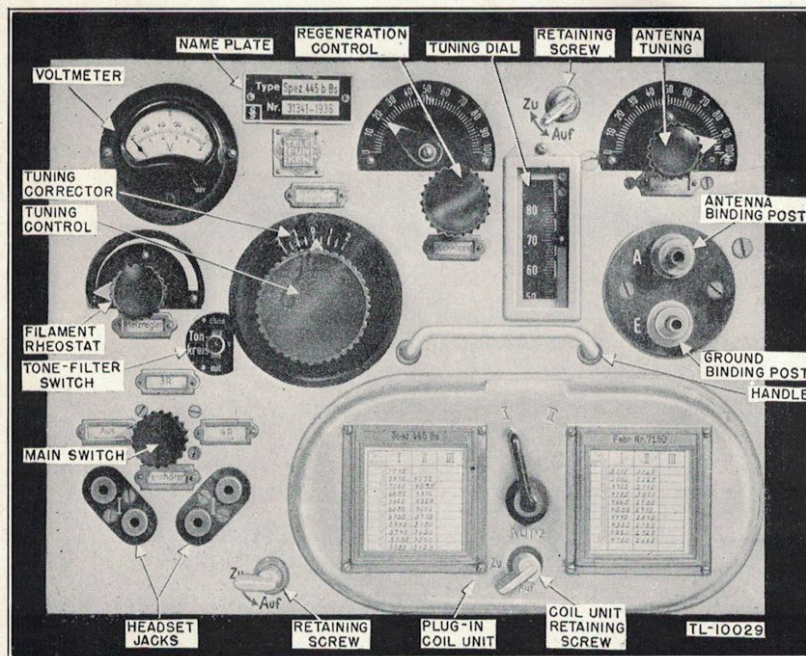
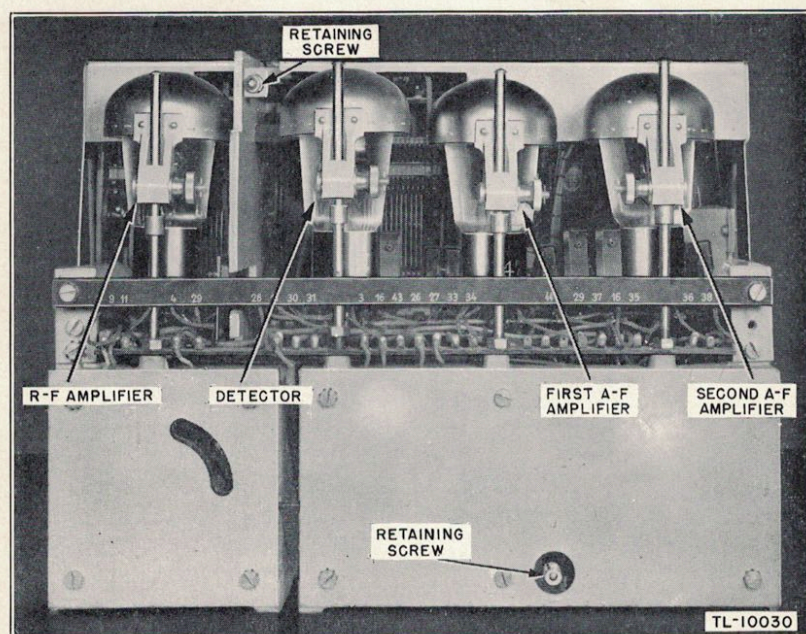

Figure 3. German radio receiver, Spez. 445 b Bs, front view.
Figure 6. German radio receiver, Spez. 445 b Bs, removed from case, rear view.
3. CONTROLS. The controls on the front panel (fig. 3) are listed below with a brief statement of their function:
- (1) Remove the set from the apparatus case by first loosening the two retaining screws labeled **Zu** (tighten) and **Auf** (loosen).
- (2) Check the tubes, making sure that they are firmly seated in their sockets and that the hold-down covers are securely in place.
- (3) Replace the set in the apparatus case and tighten the retaining screws.
- (4) Install the batteries as described in paragraph 4.
- (5) Connect antenna to binding post marked **A** (antenna).
- (6) Connect ground to binding post marked **E** (ground). If used in a vehicle this binding post should be connected to the vehicle chassis.
- (7) Insert plug-in coil covering the desired frequency range.
- (8) Plug headset into one of the **Fernhörer** (headset) jacks. The set is now ready for operation.
b. Operation. Operation of the **Spez. 445 b Bs** (portable receiver b) is simple once the operator has familiarized himself with the controls. Figure 3 shows the location of the various controls as they appear on the front panel of the set. Paragraph **5a** above gives the installation procedure prior to operation. General operating instructions are given below:
- (1) Turn the main switch to **4R** (4-tube). This places all four tubes in operation and turns on the battery power to the set.
- (2) Adjust the **Heizregler** (filament rheostat) so that the voltmeter reads 3.8 (the red mark on the meter dial). Turn control clockwise to increase the filament voltage.
d. If the set is still inoperative, start with the first audio frequency tube and work back towards the r-f amplifier tube, replacing the tubes in order. To change the tubes the set must be removed from the apparatus case. Do this by loosening the two retaining screws on the front panel (fig. 3). Figure 6 shows the location of the tubes when the set is removed from the apparatus case.